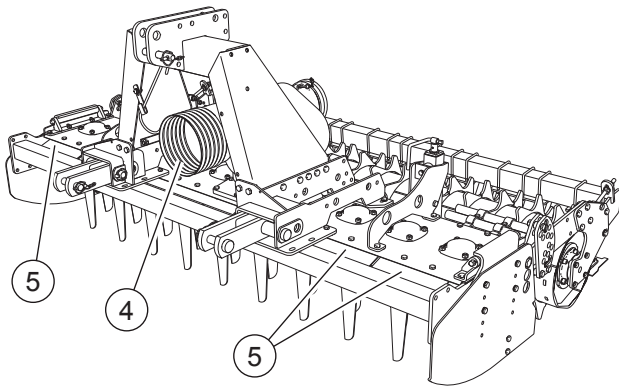

FIG. 22
- PTO guard tractor side (4, "Fig. 22").
- Protective plate for preventing access to the blades (5, “Fig. 22”).